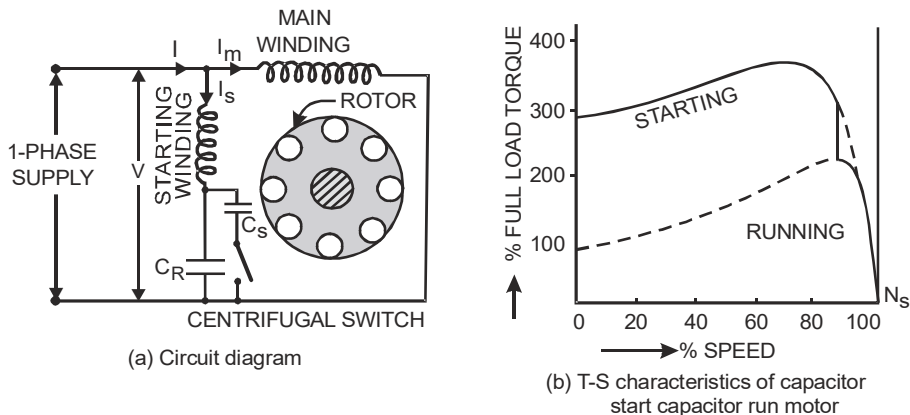

Fig. 4.34: Capacitor start capacitor run motor
- 3. Capacitor start and capacitor run motors :** In this case, two capacitors are used one for starting purpose and other for running purpose as shown in fig. 4.34 (a). The capacitor used for starting purpose C_S is of electrolytic type and is disconnected from the supply when the motor attains 75% of synchronous speed with the help of centrifugal switch S . Whereas, the other capacitor C_R which remains in the circuit of starting winding during running condition is a paper capacitor. This type of motor gives best running and starting operation. Starting capacitor C_S which is of higher value than the value of running capacitor C_R .
Performance and characteristics : Such motors operate as two phase motors giving best performance and noiseless operation. Starting torque is high, starting current is low and give better efficiency and higher p.f. The only disadvantage is high cost. A typical torque speed curve is shown in fig.4.34 (b).